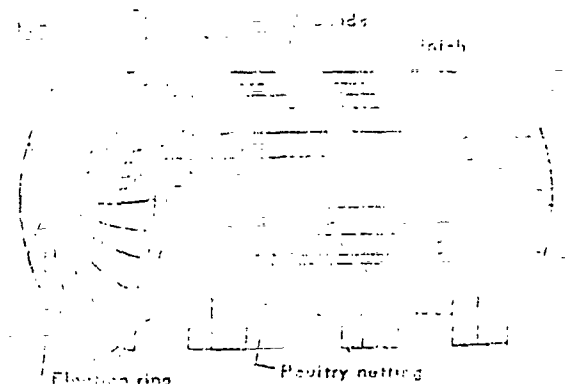

FIGURE 1
2.3. Multi-Layer Construction. The first or inner layer shall be applied with joints staggered and lateral joints staggered. Bands shall be placed over blocks approximately 1 inch from each end of each block, thus providing four bands for each 36-inch length of insulation. The second or outer layer shall be applied so that all joints are staggered with the first layer and tightly butted together. Bands shall be placed over second layer of blocks approximately 1 inch from each end of each block, thus providing four bands for each 36-inch length of insulation. Over the insulation and bands apply Peatry Netting, Code 714, drawn tight and laced into place, see Figure 1.
2.4. The insulation on heads or ends of cylindrical equipment shall be secured by tight bands, that are not over 4 inches apart and fastened to equip. an iron band or steel band encircling the tank head, the head bands or circumferential band width, see Figure 1. The insulation on the head of cylindrical tank shall be held in place at the center of the